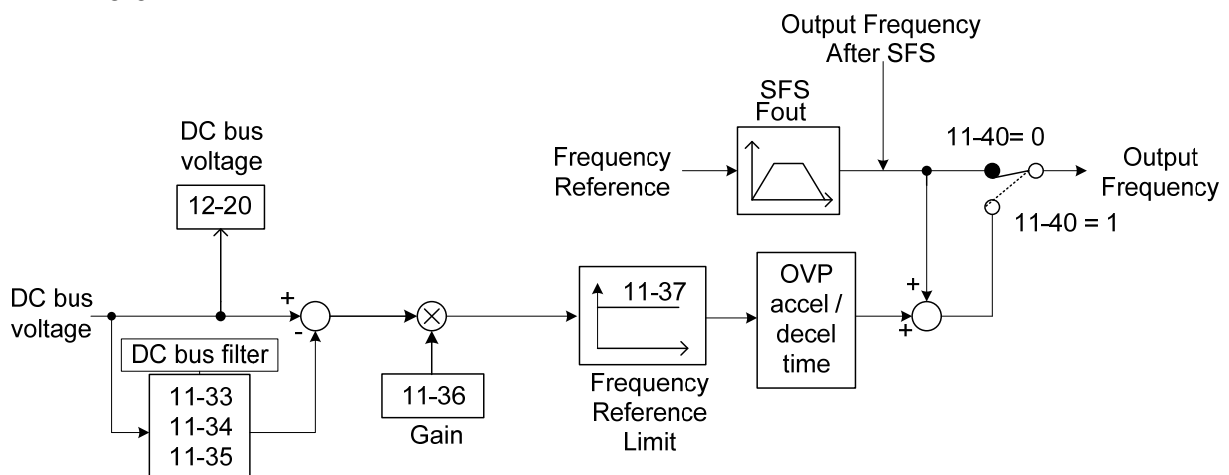

Figure 4.3.91 OVP operation
- . About the over-voltage prevention (OVP) operation, refer to the following figure 4.3.91.